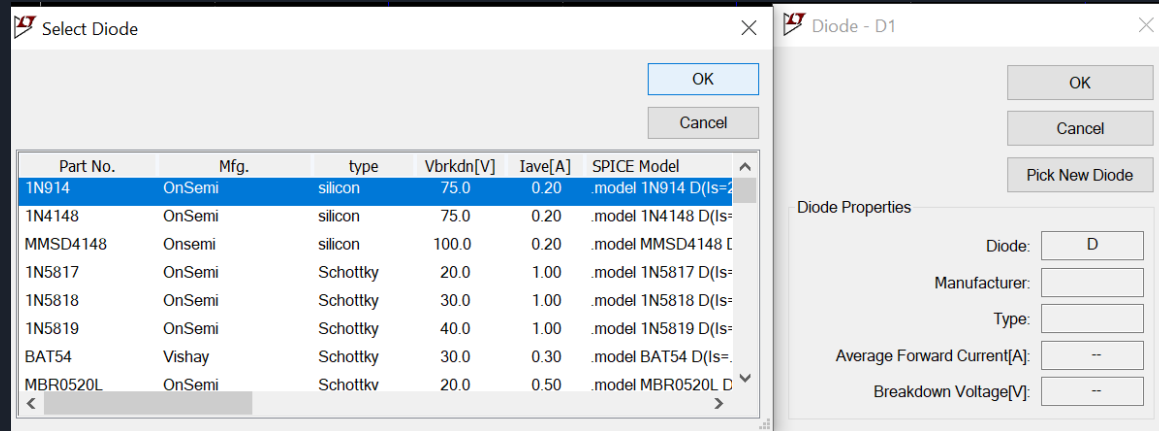

Figure 18.
- Set the diode values by right clicking the diode. Then, click **Pick New Diode** and pick the first option as shown in figure 18. Click 'OK'.